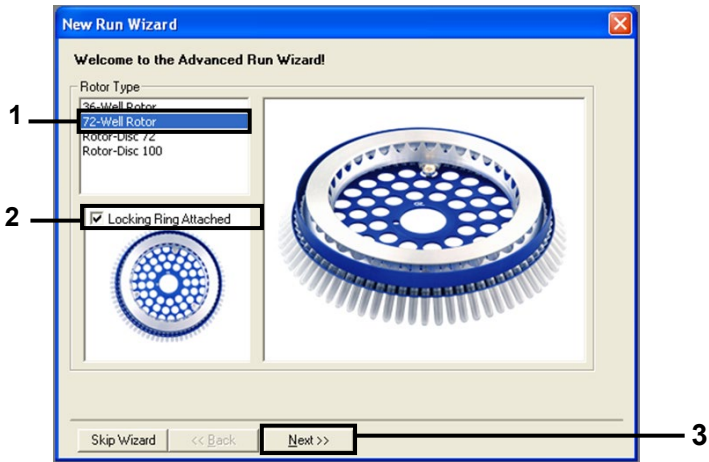

Figure 20. The “New Run Wizard” dialog box. (1 = “Rotor type”; 2 = “Locking Ring Attached” box; 3 = “Next”)
13. Ensure that the correct rotor is selected, and check the **Locking Ring Attached** box to confirm that the locking ring is attached. Click **Next** (Figure 20).